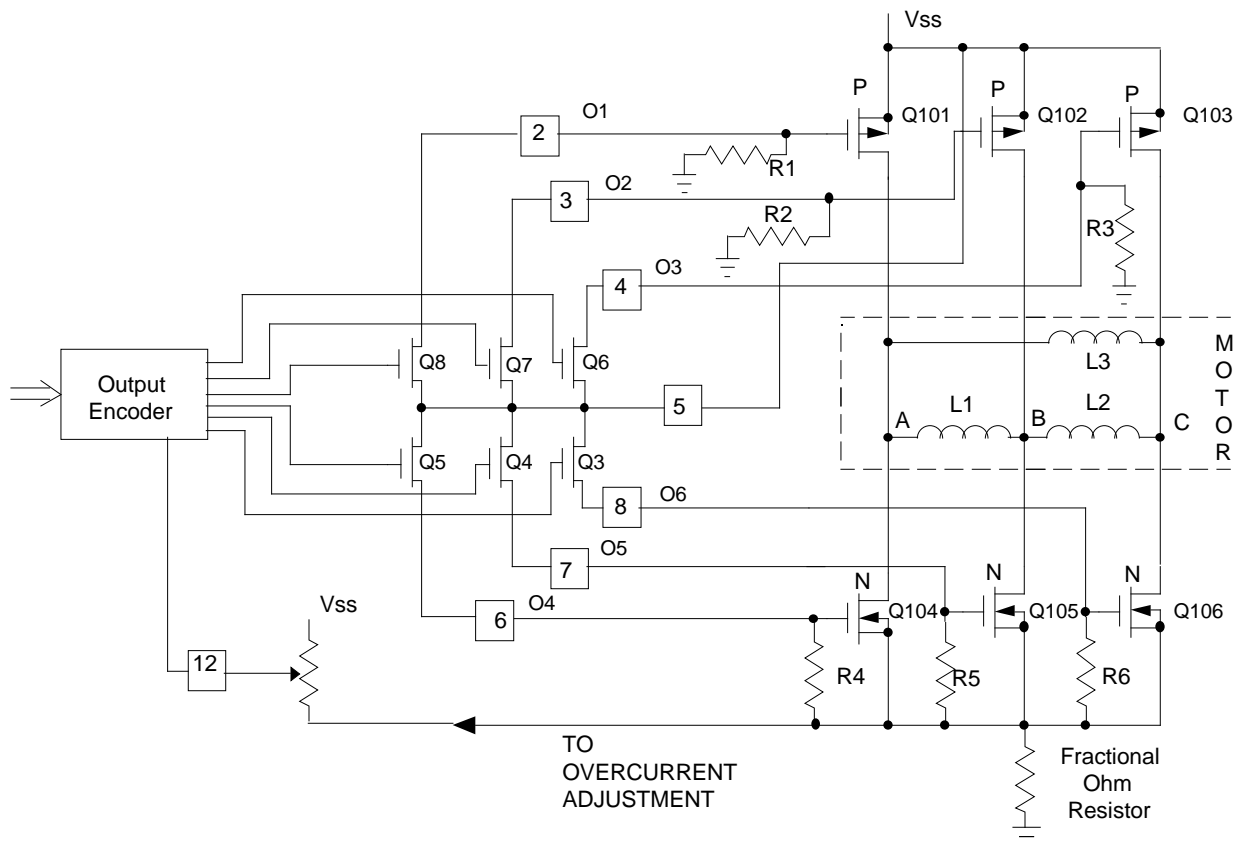

FIGURE 1. LS7260 THREE PHASE OUTPUT DRIVER CIRCUITRY
A positive braking feature is provided to effect rapid deceleration. While the LS7262 is designed for driving NPN and PNP transistors (See Fig. 2), the LS7260 is designed to drive both NMOS and PMOS Power FETs and develops a full 12V drive for both the N-Channel and P-Channel devices (See Fig. 1) when using a 12V power supply.
For the LS7262, a high level at this input unconditionally turns OFF Outputs 1, 2 and 3 and turns ON Outputs 4, 5 and 6 (See Fig. 2). For the LS7260, a high level at this input turns ON Outputs 1, 2 and 3 and Outputs 4, 5 and 6 (See Fig. 1). In both cases, transistors Q101, Q102 and Q103 cut off and transistors Q104, Q105 and Q106 turn on, shorting the windings together. The BRAKE has priority over all other inputs.
The oscillator is used for motor speed control as explained under VTRIP. Both upper and lower motor drive transistors are pulse width modulated (See Fig. 1 or 2) during speed control. For the LS7262, the outputs turn on in pairs (See Table 3). For example (See dotted line, Fig. 2): Q8 and Q4 are on, thus enabling a path from the positive supply through the emitter-base junction of Q101, Q8, Q4, R5, the base emitter junction of Q105 and the fractional-ohm resistor to ground. The current in the above described path is determined by the power supply voltage, the voltage drops across the base-emitter junctions of Q101 and Q105 (1.4V for single transistor or 2.8V for Darlington pairs), the impedance of Q8 and Q4 and the value of R5. Table 1 provides the recommended value for R5. R4 and R6 are the same value.
For the LS7260, (See Fig. 1) the external drivers also turn on in pairs. Internal operation is somewhat different than the LS7262. For example, external transistors Q101 and Q105 will turn on when internal transistor Q8 turns off and Q4 turns on enabling full power supply drive on Q101 and Q105. Since Pin 5 is tied to Vss, the gate of P-channel Driver Q101 is brought to ground by R1 and the Gate of N-Channel driver Q105 is brought to Vss by Q4. Other external output pairs turn on similarly and the commutation sequence is identical to that of the LS7262 (Table 3). Table 2 indicates the minimum value of R1 (=R2=R3=R4=R5=R6) needed as a function of output drive voltage for Fig. 1.
*See Figures 1 and 2. For the LS7260, Outputs O1,O2,O3 are the logical inversions of the corresponding Out- puts of the LS7262.